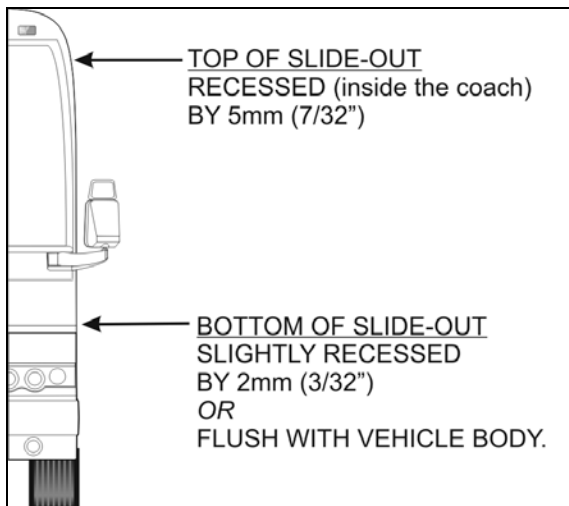

FIGURE 27: TILT ADJUSTMENT
5. Using leveling screw 3, adjust the tilt in order to have the top of the slide-out recessed by 5mm (7/32") (see Figure 27).